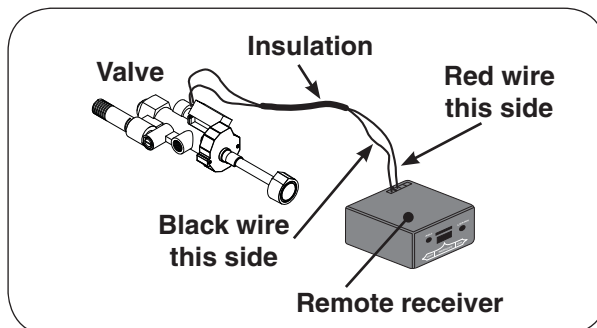

Fig. 10-2 Connect harness to receiver
2. Connect the valve wire harness to the remote receiver as shown in Fig. 10-2.